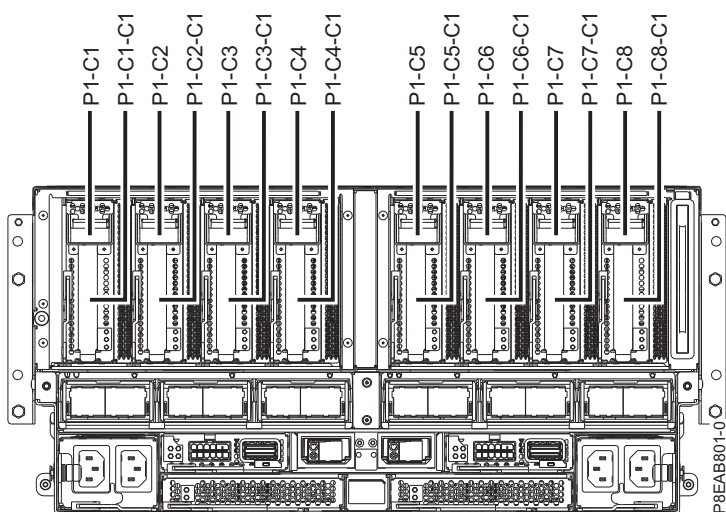

Figure 37. PCIe adapter slot locations in the system
3. Determine the slot in which you want to install a PCIe adapter. The PCIe adapter slots are at the rear of a system. Figure 37 shows the PCIe adapter location codes.